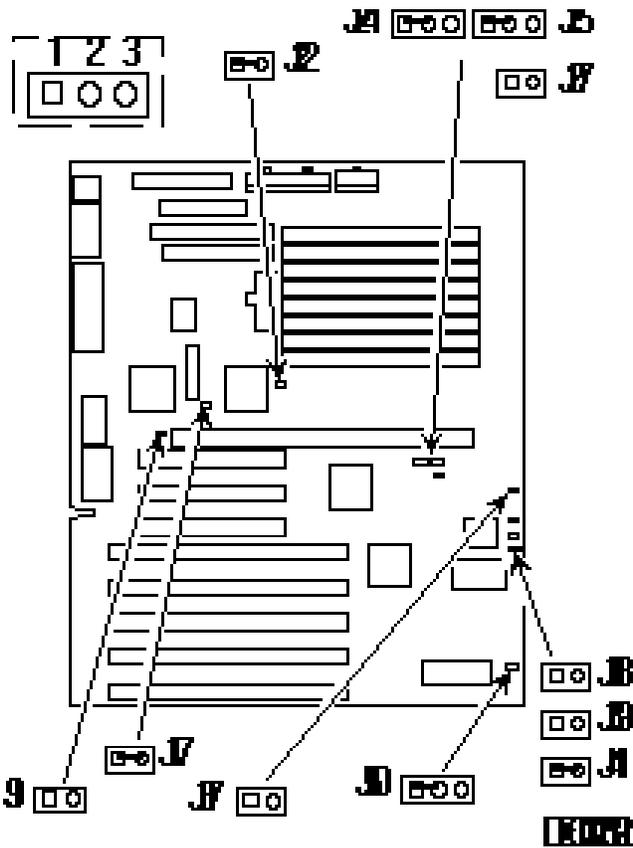

Figure 1. Main Logic Board Jumper Locations
1. Turn off the server and make sure that the Onboard VGA jumper (J17, Figure 1) is installed (enabled).
2. Install a jumper on J39 (Figure 1) to set it to Recovery mode.